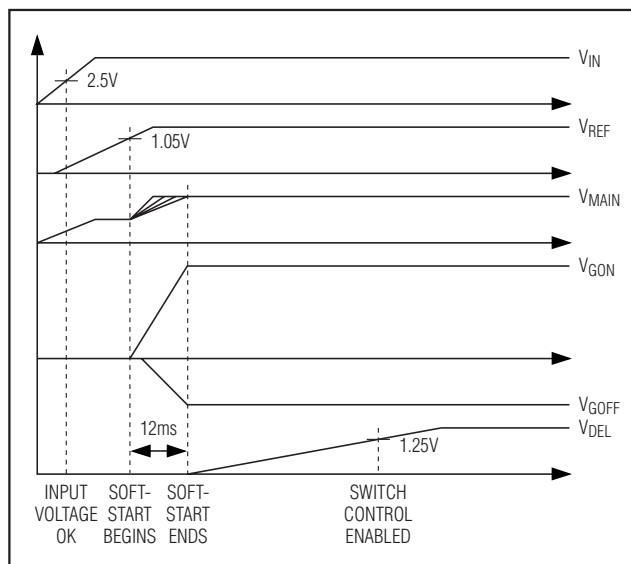

Figure 6. Power-Up Sequence
1.25V (typ), the switch-control block is enabled as shown in Figure 6. After the switch-control block is enabled, COM can be connected to SRC or DRN through the internal p-channel switches, depending upon the state of CTL. Before startup and when IN is less than V_{UVLO} , DEL is internally connected to AGND to discharge C_{DEL} . Select C_{DEL} to set the delay time using the following equation: